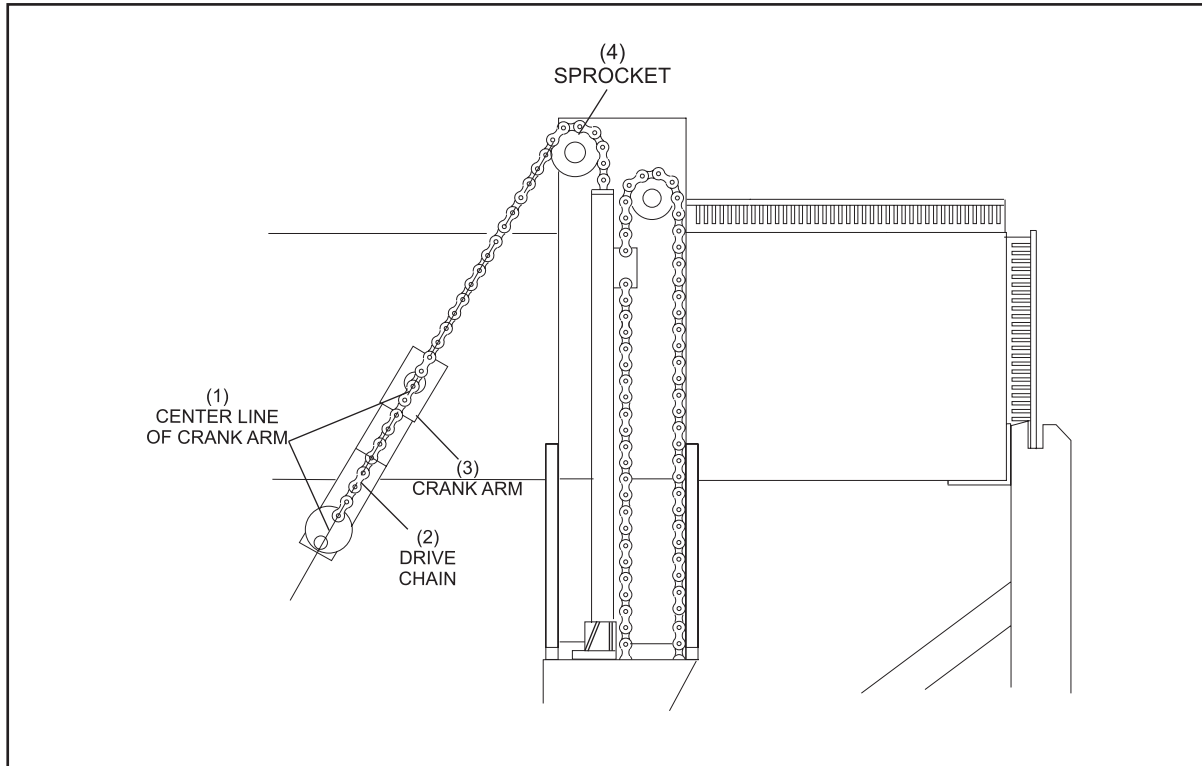

Figure 5-28. Drive Chain Position
3. Manually rotate the table motor “V” belt pulley until the setting table’s crank arm and the lift chain form a straight line as shown in *Figure 5-28*. (Refer to the Service section of this manual for the proper table lowering procedure.)
1. Position the setting table so that the drive chain intersects the center line of the crank arm. Refer to *Figure 5-28*.